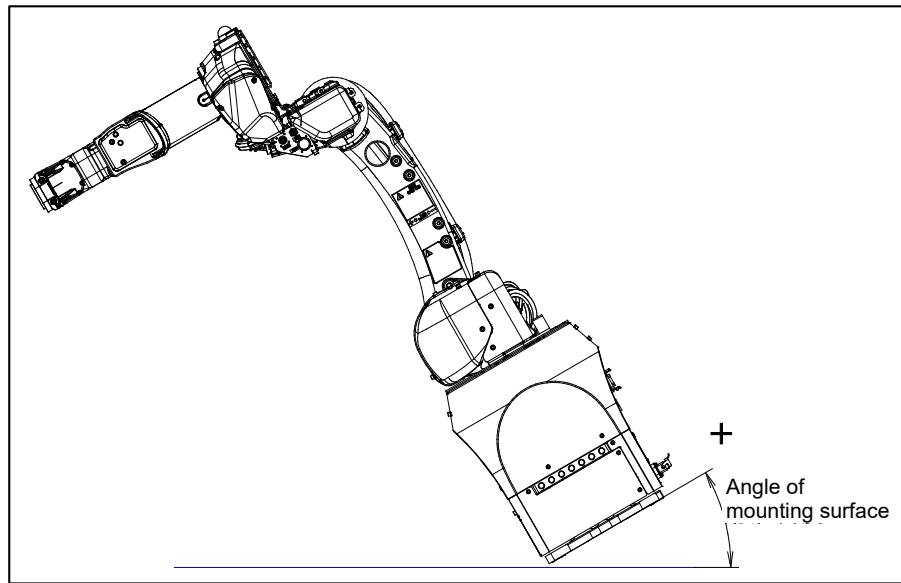

Fig. 1.2.2 (a) Mounting angle
- 6 Input the mount angle referring to Fig.1.2.2 (a).